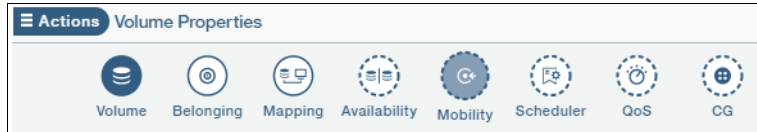
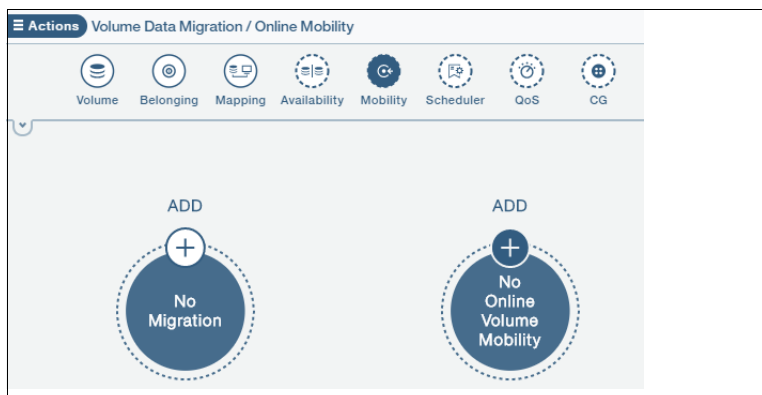

Figure 7-33 Mobility element in the hub
Figure 7-34 Create a new Mobility definition
1. Create the relationship by selecting the source volume in the Volumes view and select Mobility element in the Hub, as shown in Figure 7-33. Notice that the dashed line indicates Mobility has not been defined for the selected volume. Selecting this option opens a screen as shown in Figure 7-34. Click on the “+” symbol to define the mobility relationship.